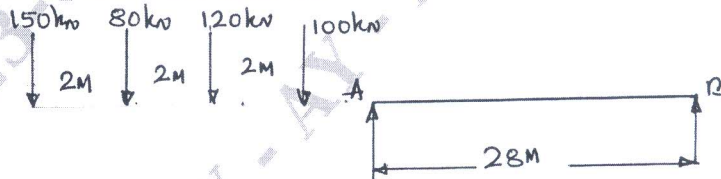

Fig.Q4
- 4 The multiple point loads 100 kN, 120 kN, 80 kN and 150 kN as shown in Fig.Q4 with spacing of 2m crosses a girder of span 28 m from left to right with 100 kN load leading. Calculate :